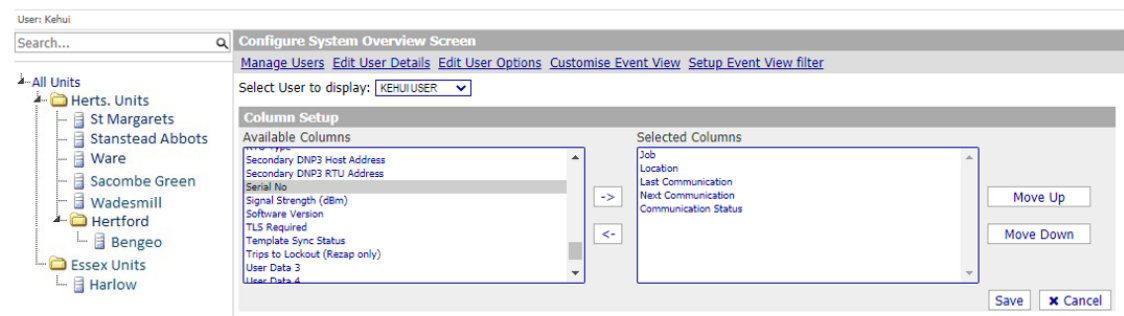

Figure 12.3 Column editing screen
By clicking on the column editing button (③ in Figure 12.2), the screen shown in Figure 12.3 appears which allows the display to be customised. Most of the available columns are not relevant to the T-P23, however if the user does want to add one, it is highlighted in the “Available Columns” list.